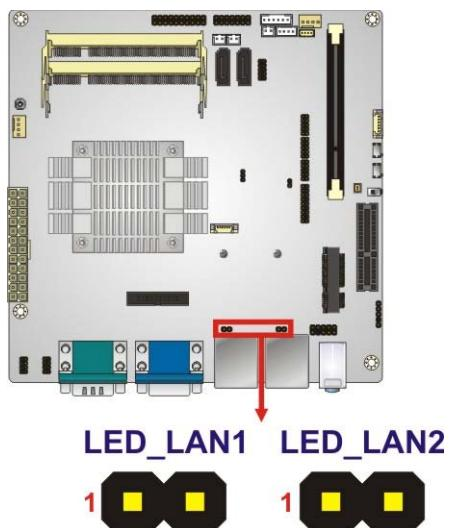

Figure 3-14: LAN LED Connector Locations
**Table 3-13: Keyboard and Mouse Connector Pinouts****3.2.13 LAN LED Connectors****CN Label:** LED\_LAN1, LED\_LAN2**CN Type:** 2-pin header**CN Location:** See **Figure 3-14****CN Pinouts:** See **Table 3-14** and **Table 3-15**